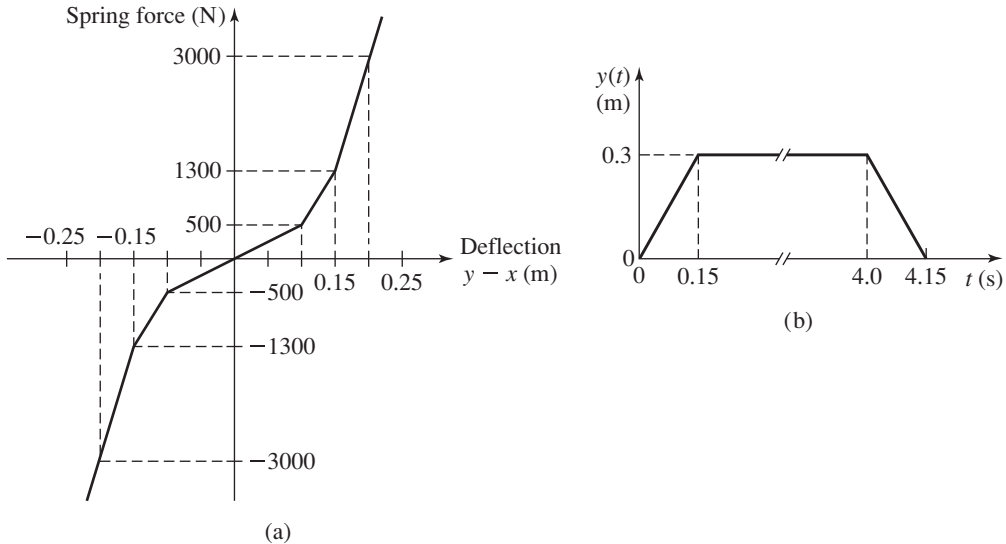

Figure P34
34. Redo the Simulink suspension model developed in Section 10.9, using the spring relation and input function shown in Figure P34 and the following damper relation.